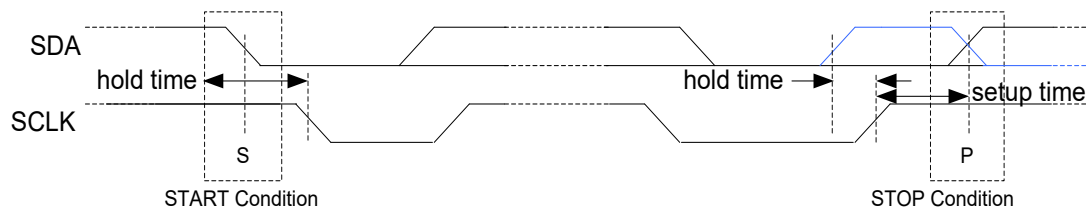

Figure 33. START and STOP (or repeated START) condition
The idle I2C bus state occurs when both SCLK and SDA are not being driven by any master and are therefore in a logic HI state due to the pull up resistors. Every transaction begins with a START (S) signal and ends with a STOP (P) signal. A START condition is defined by a high to low transition on the SDA while SCLK is high. A STOP condition is defined by a low to high transition on the SDA while SCLK is high. START and STOP conditions are always generated by master. This slave module also supports repeated START (Sr) condition which is same as START condition instead of STOP condition (Blue color line shows repeated START in Figure 33).